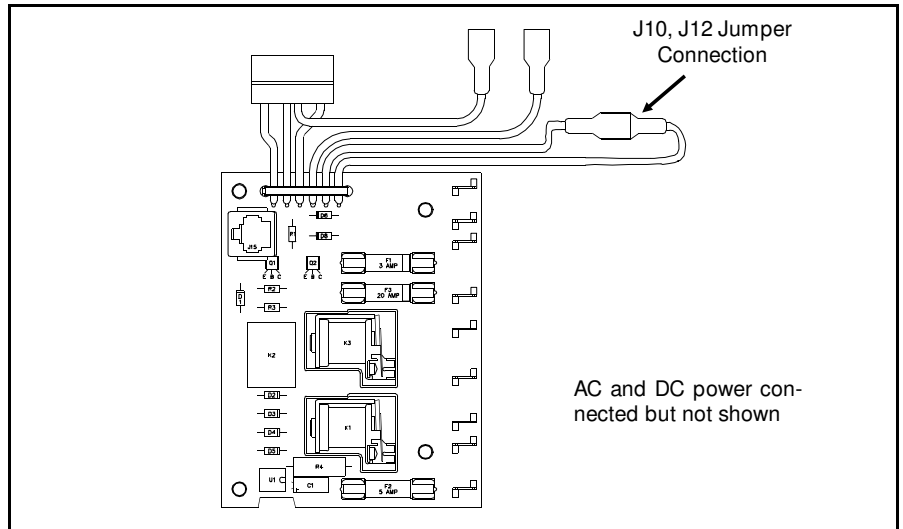
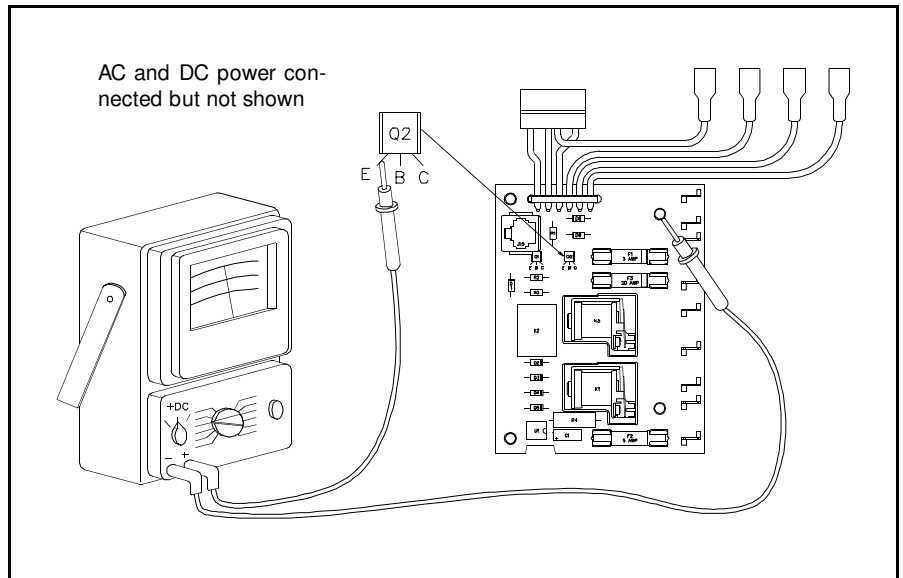

Figure 11.36 Single Door Power Supply
Figure 11.37 12 Volt Check at Q2 Emitter
- For the single door models, check that the two blue wires terminals J10 and J12 are connected together as shown by Figure 11.36.
- With the volt-ohm-meter set to measure 11-12 volts DC check for 12 volts at the emitter of transistor Q2 as shown in Figure 11.37. If you do not have 11-12 volts as shown, connect J10 and J12 together as shown in Figure 11.36 (2 door models only).